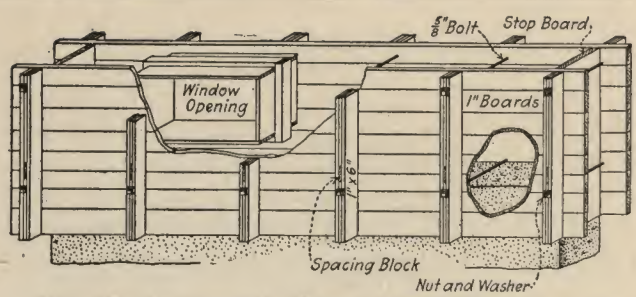

Fig. 12.—Arrangement of form when window is to be inserted—Sectional form to be raised as wall is built up and used over and over.
69. Figure 12 shows forms for walls that can be used over again several times. Slotted uprights are made of boards 1 inch thick and 6 inches wide, separated by small blocks. Through these uprights, to hold the forms together, there are bolts, which must